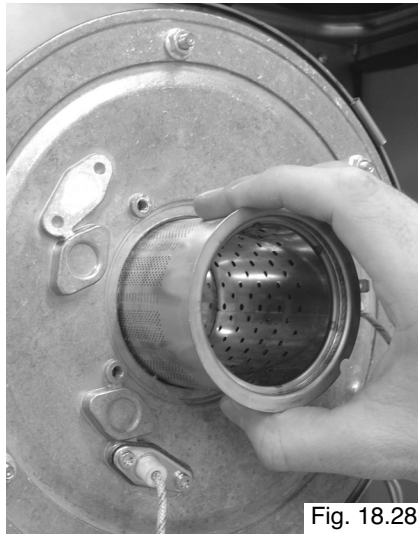

Fig. 18.28
3. Slide the burner out from the front, taking care not to damage the insulation (Fig. 18.28);